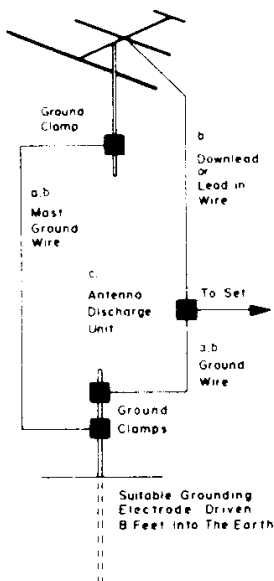

FIGURE 1
11. If an outside antenna is used, be sure it is located away from power lines. The antenna should also be grounded to protect against voltage surges and built up static charges. Refer to Figure 1 below.